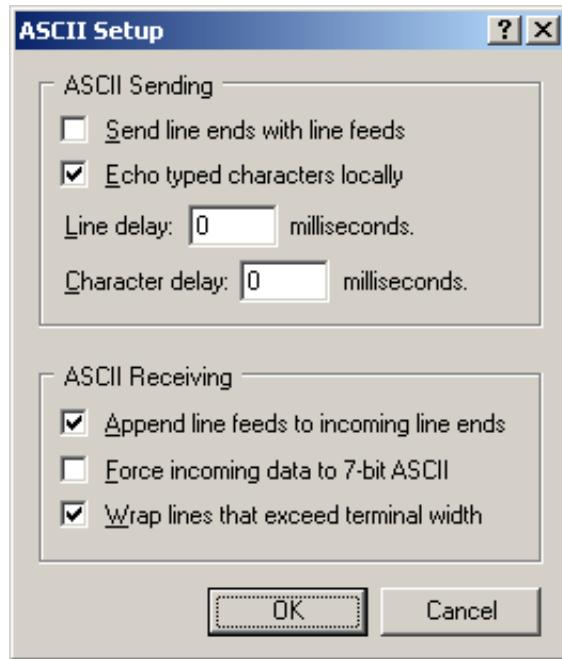

Figure 7-10 • ASCII Character Settings
5. Click the **ASCII Setup** button. Select the check box labeled **Append line feeds to incoming line ends** (Figure 7-10).